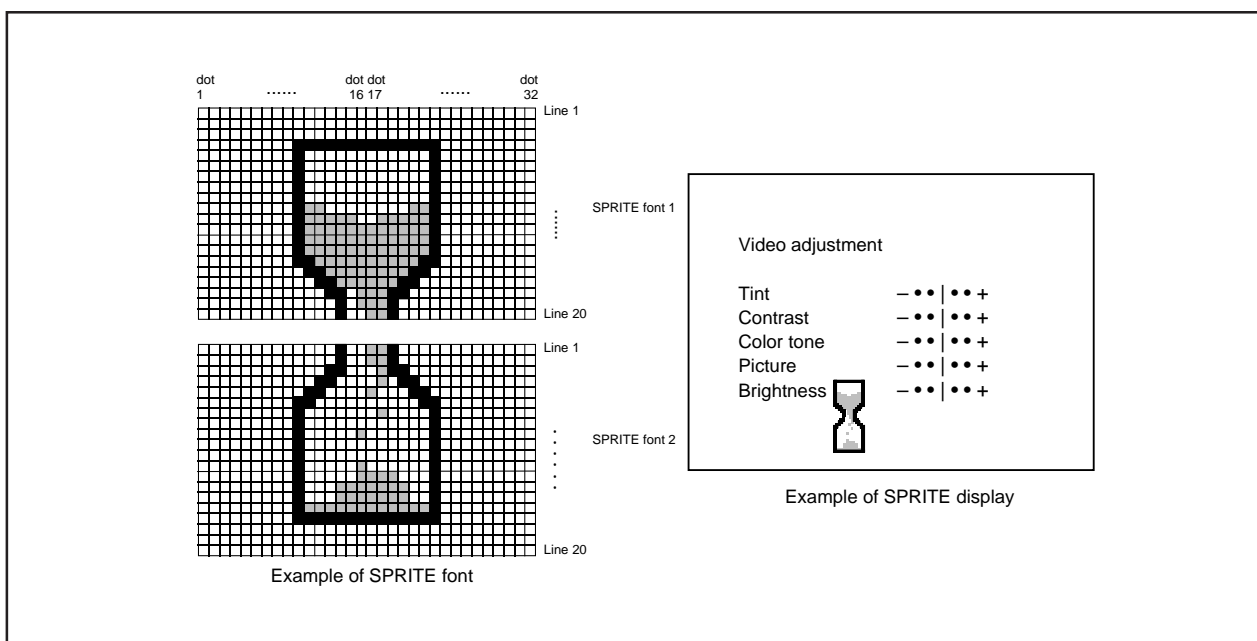

Figure 2.16.41 SPRITE OSD display example
- Notes 1:** An OSD1 interrupt does not occur at the end of display when the block is not displayed. In other words, if a block is set to off display by the display control bit of the block control register i (addresses 021016 to 021F16), an OSD1 interrupt request does not occur (refer to Figure 2.16.41 (A)).